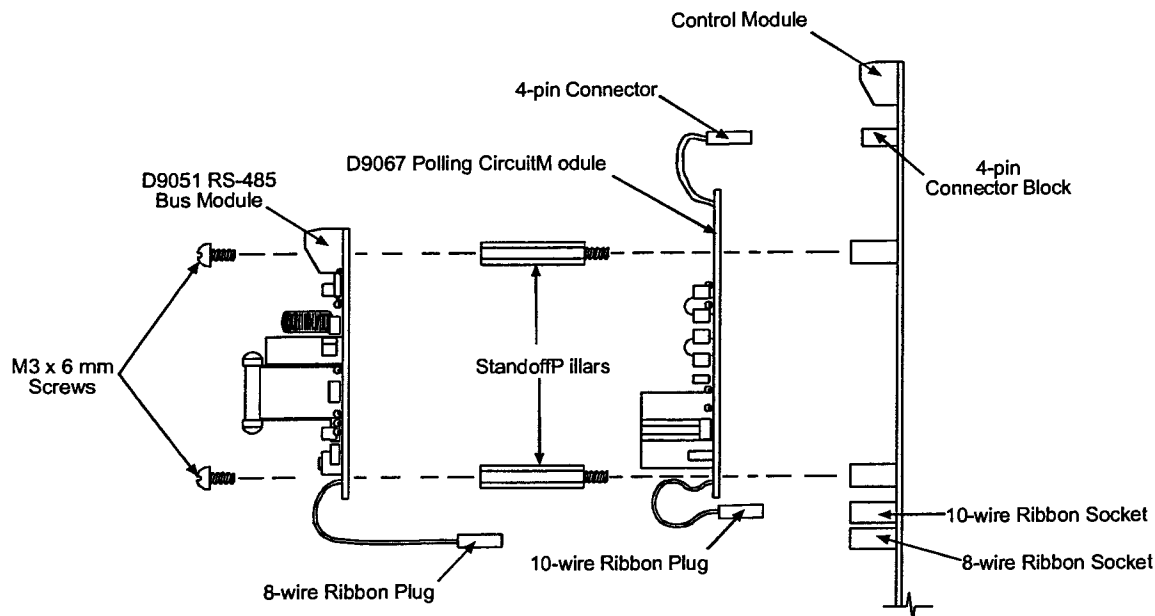

**Figure 5: D9067 Installation**
Analog devices report to the FACP over a polling circuit that connects to a D9067 Polling Circuit Module. The D10024 has five expansion slots for the D9067. See Figure 5.
- 1) Mount the D9067 Polling Circuit Module on the D10024 Control Module using the hardware provided with the D9067. Begin on the right side of the board in the slot labeled **PL LOOP1**. See Figure 5.
**Note:** In some configurations, it may be necessary to mount the D9067 Polling Circuit Module together with another module. On the D10024, this can occur above the sockets labeled PL LOOP 3, PL LOOP 4 and PL LOOP 5. In this configuration, the D9067 mounts above the D10024 Control Module and the other module is "stacked" over it on standoff pillars. See Figures 5 and 6.
- 2) Connect the D9067's 10-wire ribbon to the 10-pin plug below it. The female four-wire plug at the top of the board plugs into the four-pin block below the dedicated screw terminal blocks. See Figures 5 and 6.
On the D10024, Ports B, C and D are located below the 10-wire ribbon sockets labeled PL LOOP 3, PL LOOP 4 and PL LOOP 5. The D9051 and D9067 modules may be "stack-mounted" together above Ports B, C and D. See Figures 5, 6 and 9 for module installation and port locations. See Table 5 for port assignments.